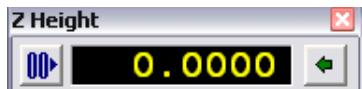

Figure 3-24
- c. On the **Z Height** display (Figure 3-24), click the **00>** button to set the Z Height coordinates at zero.